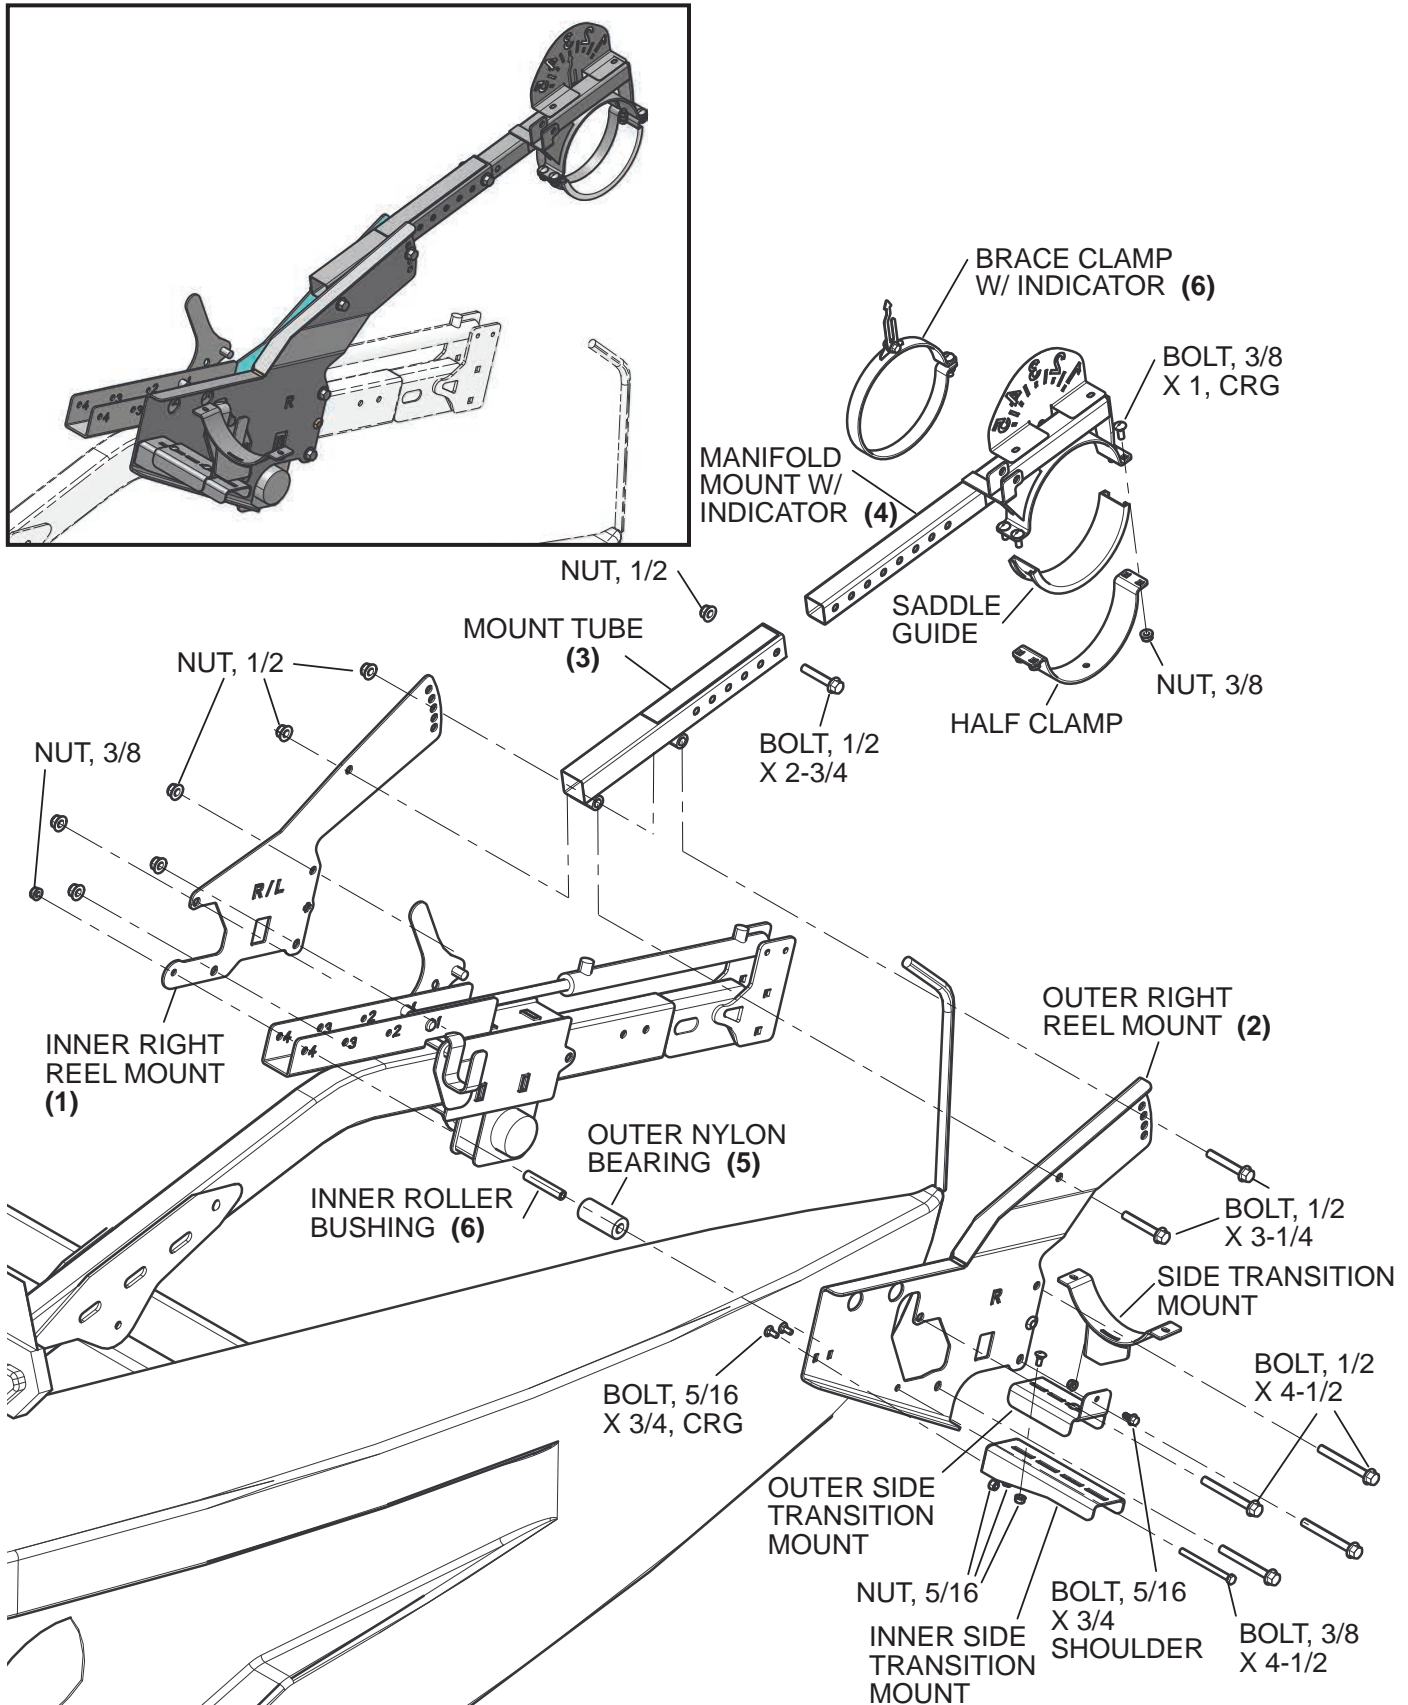

Figure 17: Reel arm mount (RH)
1. Clamp the outer RH reel mount **(2)**, and the inner RH reel mount **(1)** around the OEM reel arm as shown in (Figure 17) using four 1/2 X 4-1/2 flange bolts and nuts.
3. Align the mount tube **(3)** to the holes in the top of the reel mounts **(1) & (2)** and secure with two 1/2" x 2-3/4" bolts and nylock nuts.